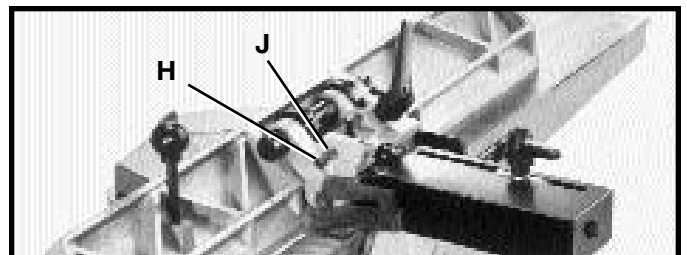

Fig. 54
10. If an adjustment is necessary loosen locknut (H) Fig. 54, and turn adjusting screw (J) until fence is tilted 45 degrees in. Then tighten lock nut (H).